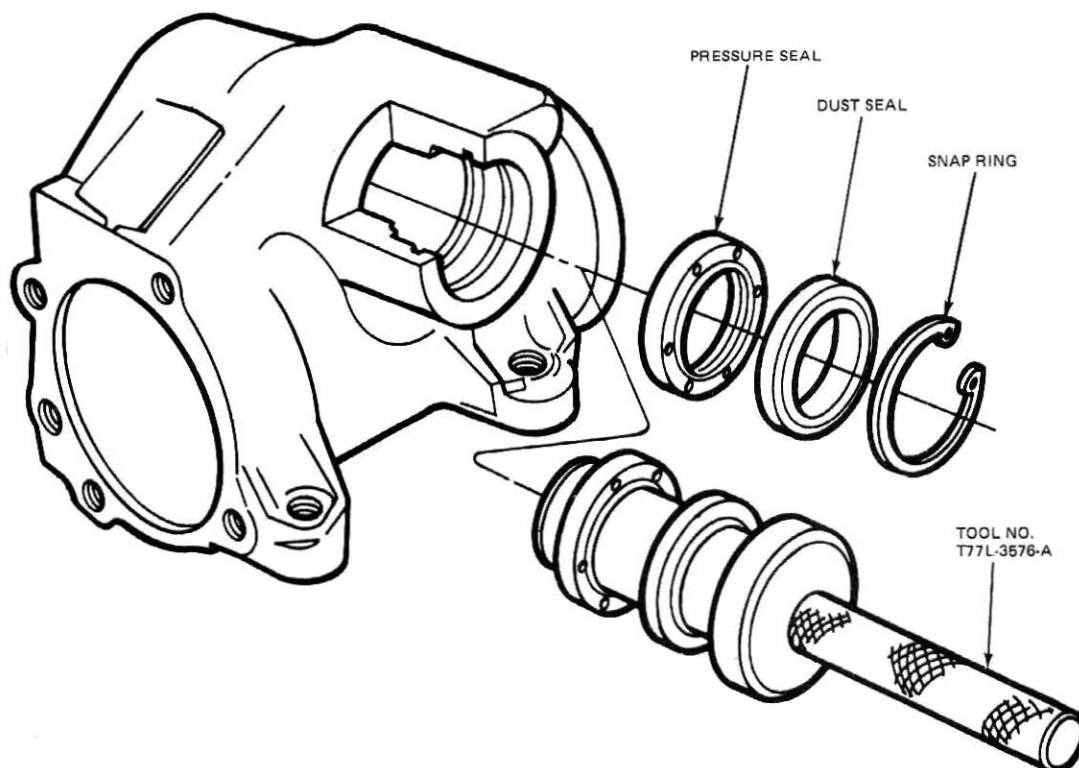

FIG. 8 Installing Sector Shaft Seals
1. Remove the snap ring from the lower end of the housing (Fig. 8).
6. Place the dust seal on tool T77L-3576-A so the raised lip of the seal will fit into the seal driver tool. Then slide the pressure seal onto the tool. The flat back side of the seal should be against the flat side of the dust seal (Fig. 8).